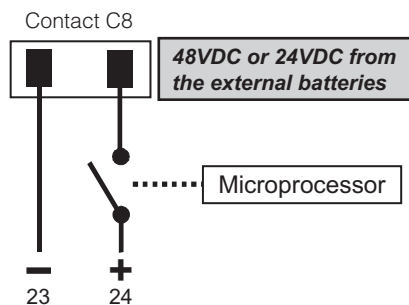

Figure 6 — ATS Layout
**ATS (C8):** When the Alpha FXM is in the Inverter mode, this normally open relay closes (Figure 6), sending 48 VDC (FXM 650-48, 1100, 2000) or 24 VDC (FXM 650-24) from the external batteries to this dry contact. If the optional Alpha Technologies's Automatic Transfer Switch (ATS) is connected, it will cause the ATS to switch the load from line power to the Alpha FXM's battery backup power.